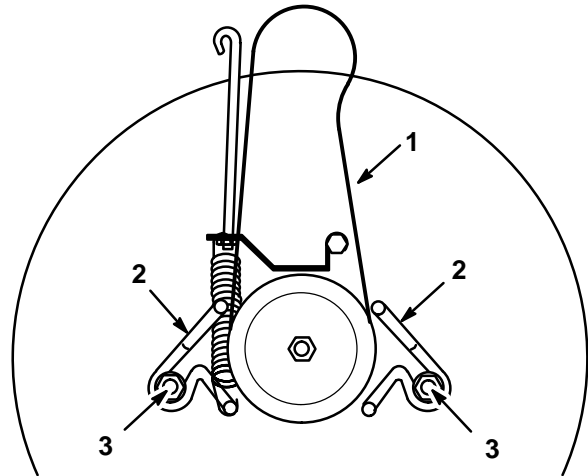

Figure 45
2. Loosen the belt guide mounting bolts and move belt guides away from the pulley (Fig. 45).
1. Install the new belt around the blade pulley and inside both belt guides (Fig. 45).
2. Adjust the belt guides so they are 1/8” (3 mm) away from the pulley and tighten mounting bolts (Fig. 45).